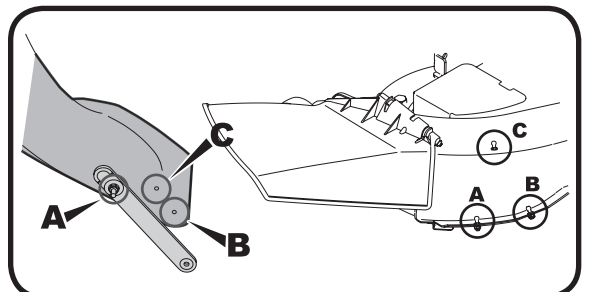

Figure 24
*The retainer strap is fitted at position B on the discharge chute. However, on older models of tractors, you will have to change the position of the strap depending on the location of the grass catcher pin on the deck. Remove the retainer strap from position B on the discharge chute to position A or C corresponding to the position of the grass catcher pin at A, B or C on the deck. See Figure 24.*
**NOTE:** *The retainer strap is fitted at position A on the discharge chute. However, on older models of tractors, you will have to change the position of the strap depending on the location of the grass catcher pin on the deck. Remove the retainer strap from position A on the discharge chute to position B or C corresponding to the position of the grass catcher pin at A, B or C on the deck. See Figure 24.*